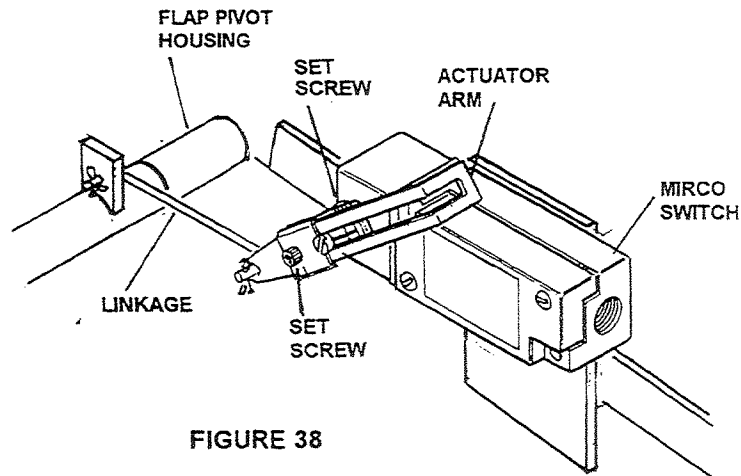

FIGURE 38
5. If the lower flap travel does not fall into the lower limits, loosen set screw on the actuator arm slightly. (The setting from the factory is 1" from the center of the set screw to the eyelet on the actuator arm). To help bring the travel limits into Tolerance, slide the actuator arm in the direction desired. This may require several adjustments before the correct position is obtained. When the actuator arm is determined to be correct, tighten set screw. No further adjustment is necessary. (See figure 38 & 40).